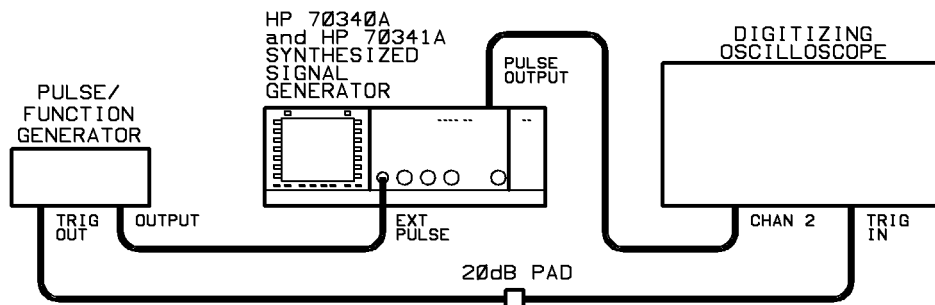

Figure 1-3. Pulse Check Setup
1. Connect the equipment as shown in Figure 1-3 with the oscilloscope connected to PULSE OUTPUT.